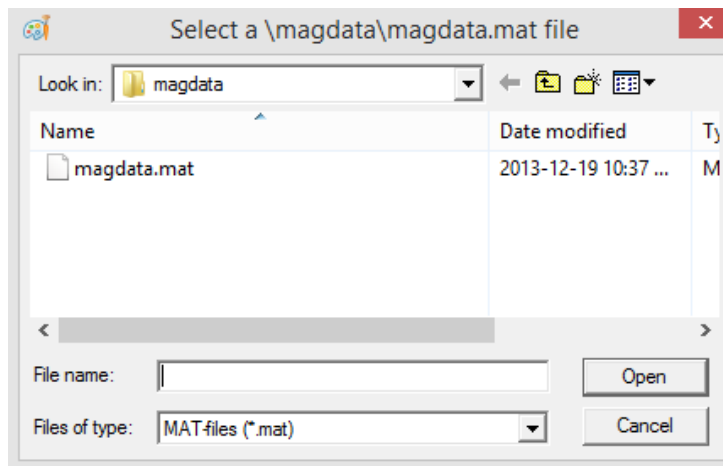

Figure 5.27: The "magdata.mat" file to be saved in the 'magdata' subfolder.
- It is saved as “magdata.mat” as seen in **Figure 5.27**. At this point it is best to use this default format.